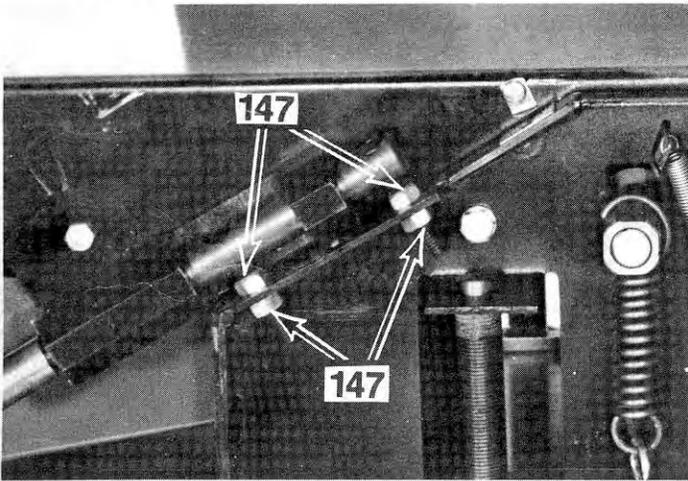

FIGURE 63
- B. To adjust table height, loosen the number 147 spherical nuts below the number 108 Infeed Table Adjustment Rods. Then adjust the table up or down by adjusting the number 147 spherical nuts. (See figure 63)
- A. To check levelness, lay a straight edge across the outfeed table over the top of the jointer/planer blades and the infeed table. The right side or operator's side pivots on the number 107 Outfeed Table Pivot Adjustment Rod. The outfeed table is locked into position with the number 119 Outfeed Table Locking Adjustment Rod. Table may be leveled adjusting both rods up or down like the infeed rods, by adjusting number 147 spherical nuts. (See figure 63)